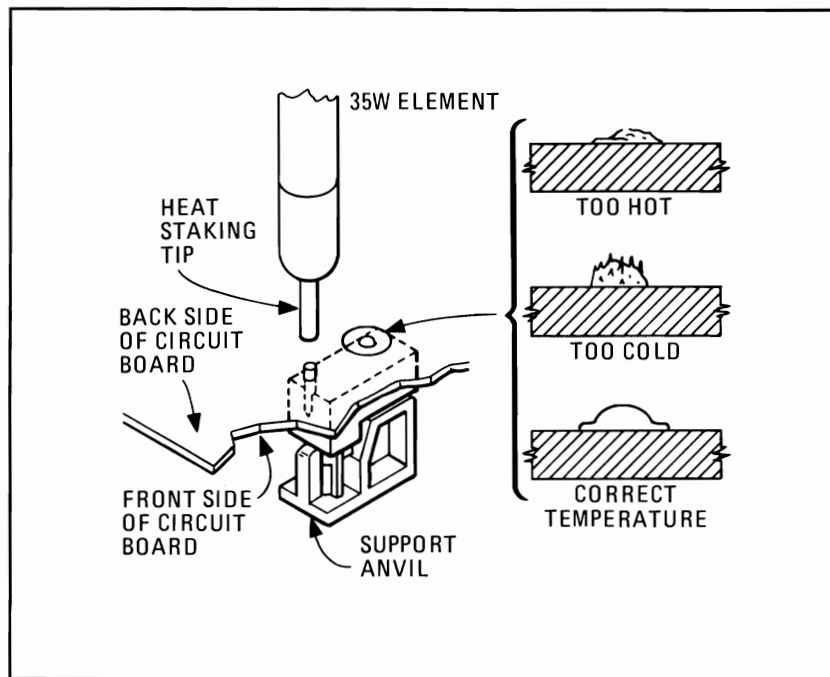

Figure 8-124. Typical Assembly for Heat Staking Operation
6. To assure proper switch assembly, verify that the switch is pushed firmly against the circuit board and, with the hot (440°C or 825°F) staking tip, push down on each of the posts (2) of the switch. Each post should take about one second to stake. With the proper cycle, the post should turn a darker color and, in about ten seconds, return to its original bright red color. The correctly staked post should have a smooth round "rivet" like top, as shown in Figure 8-124.